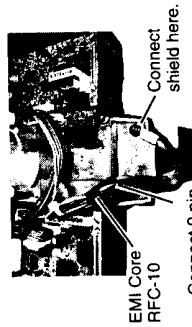

Figure 9 How to connect the signal cable to the antenna unit
8. Referring to Figure 9, connect the 9-pin connector to J801. Attach EMI Core RFC-10 (supplied) to antenna cable. Fasten the shield to location shown in the Figure 9.